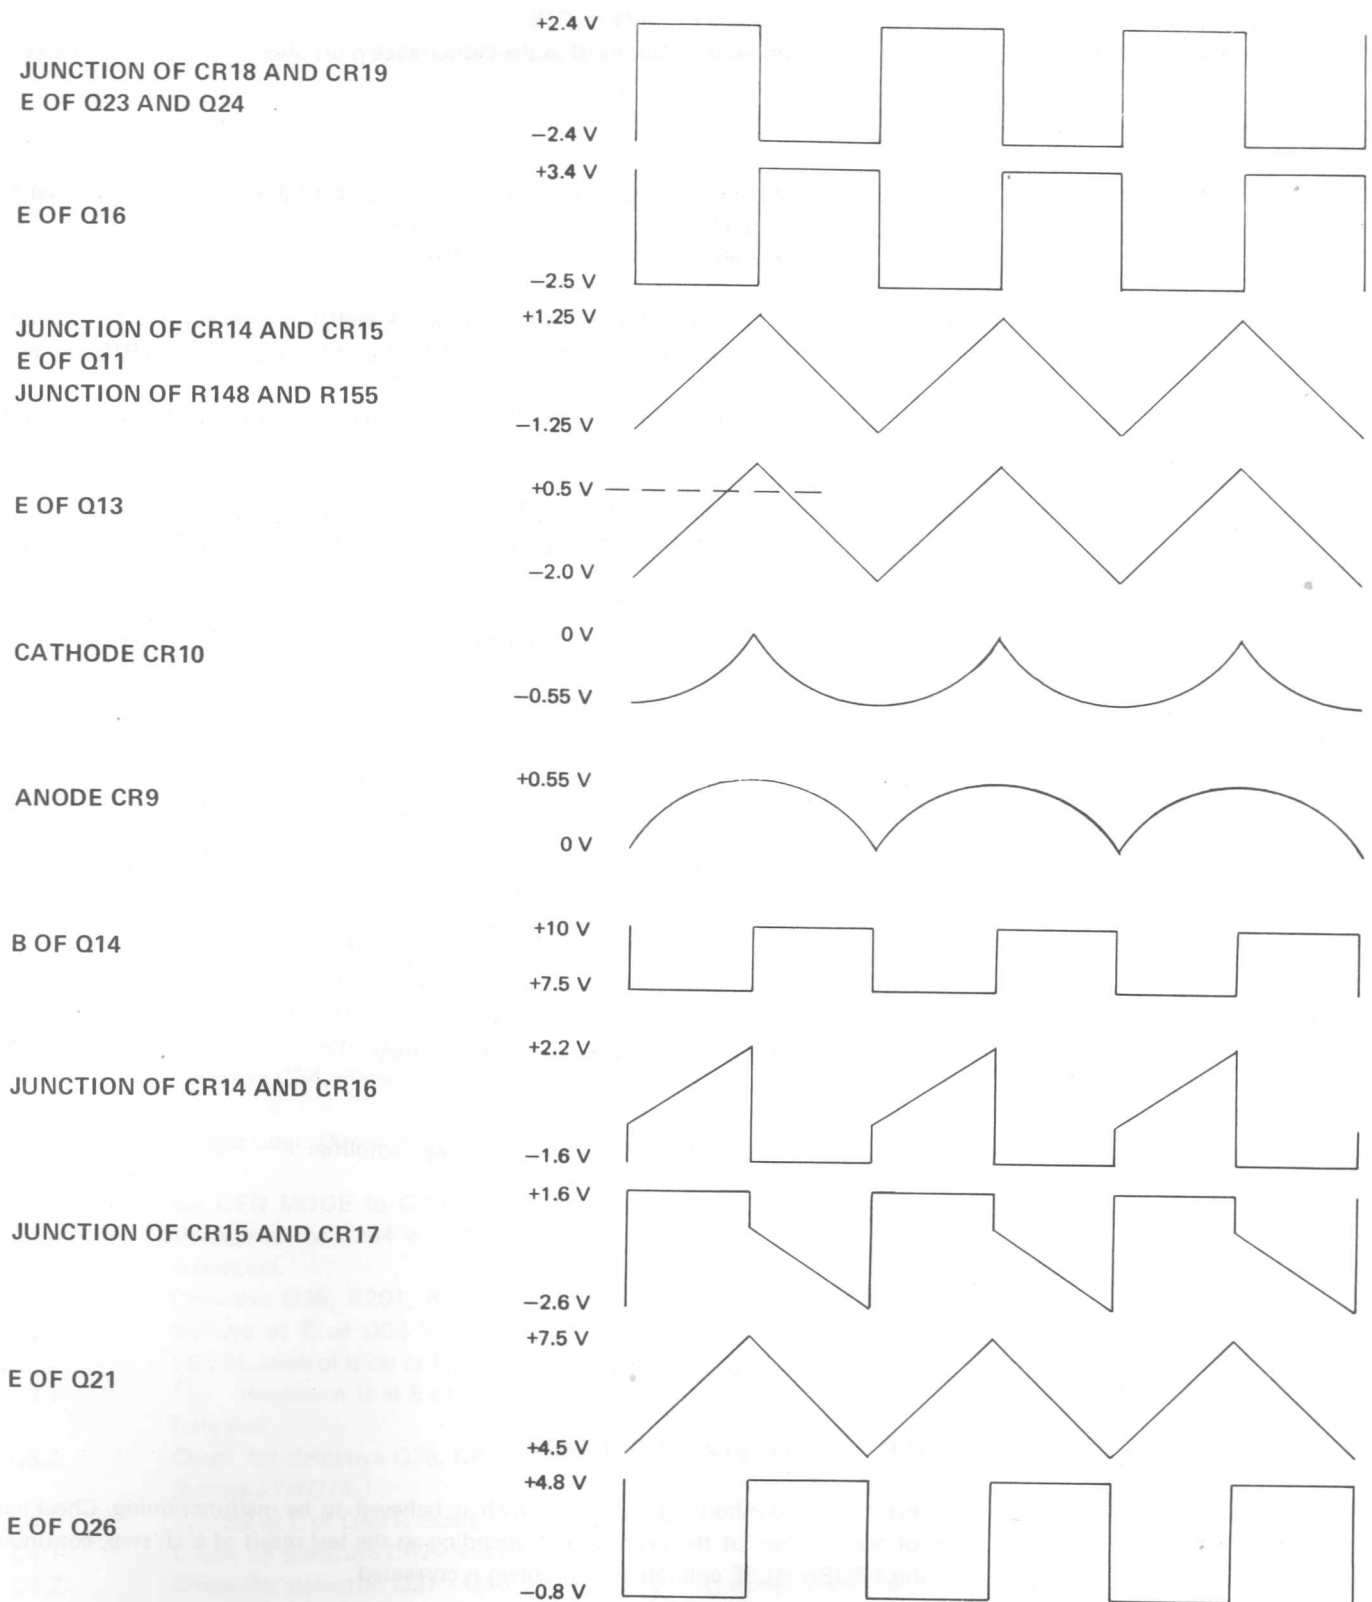

Figure 5-1. Key Waveforms of  Amplifier No. 1, Amplifier No. 2, Comparator and Hysteresis Switch
- c. Check for defective CR9 and CR10 (to check, set frequency to 3 kHz and compare waveform at the diode as shown in Figure 5-1).